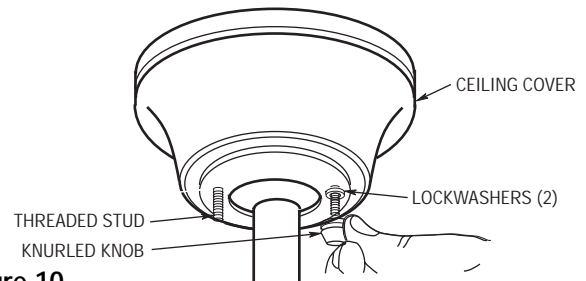

Figure 10
- 4. Lift the ceiling cover up to the threaded studs and turn until studs protrude through the holes in the ceiling cover (Figure 10).
- 5. Secure the ceiling cover in place by sliding lockwashers over the threaded studs and installing the two knurled knobs (supplied). (Figure 10). Tighten the knurled knobs securely until the ceiling cover fits snugly against the ceiling and the hole in the ceiling cover is clear of the downrod. Your fan is now wired to be turned on and off from the fan switch.